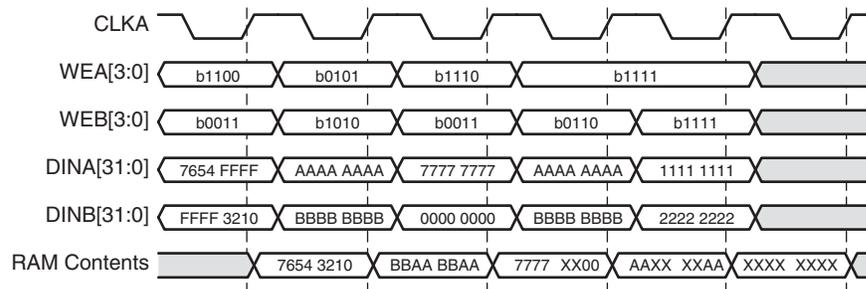

Figure 15: Write-write Collision Example
- **Using Byte-Writes.** When using byte-writes, memory contents are not corrupted when separate bytes are written in the same data word. RAM contents are corrupted only when both ports attempt to write the same byte. **Figure 15** illustrates this case. Assume ADDRA = ADDRB = 0.